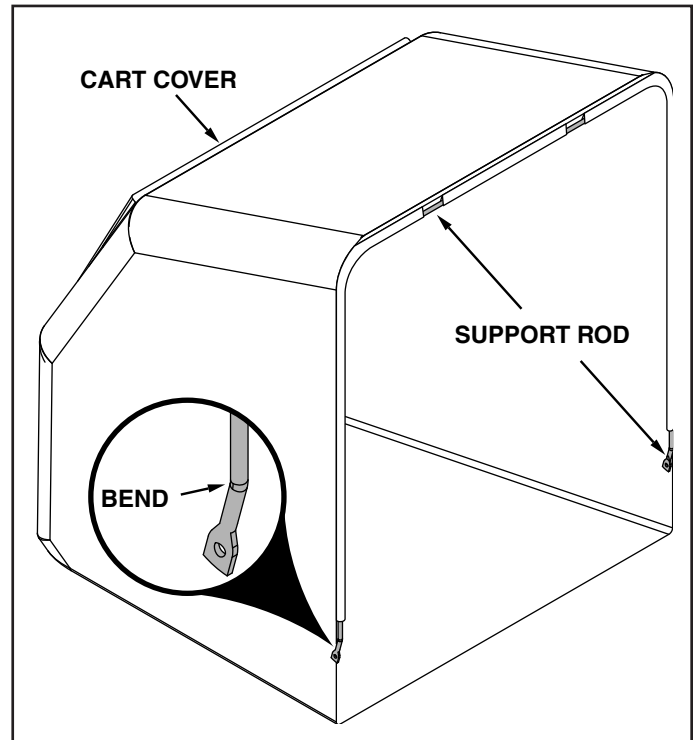

FIGURE 21
3. Slide the last lower support rod through outer edge of the cart cover. The **bend** in the rod must face in the direction shown in figure 21.